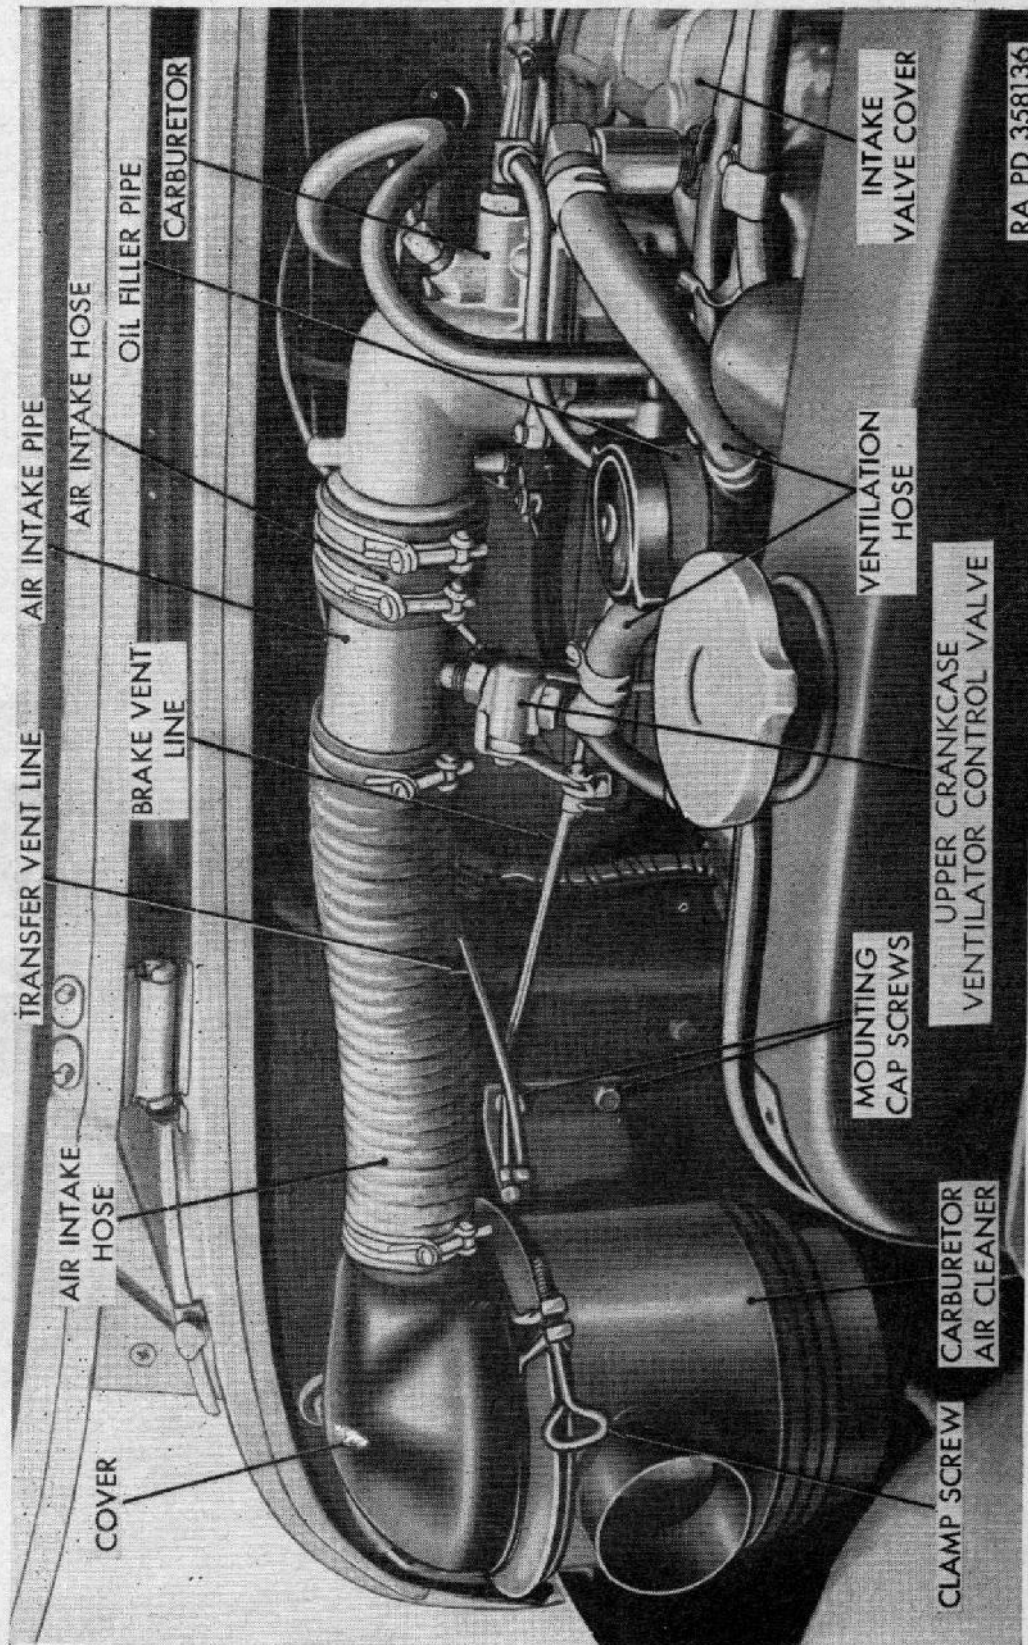

Figure 45. Carburetor and carburetor air cleaner installed.
- (4) *Carburetor air cleaner.* The carburetor air cleaner (fig. 45) is an oil-bath type specially designed and adapted for underwater operation. The air cleaner is mounted on the right
- (3) Loosen hose clamp at carburetor and remove air intake hose (fig. 45) from carburetor.
- (3) Place air intake hose (fig. 45) on carburetor and tighten hose clamp securely.
*a. Servicing.* Loosen hose clamps securing air intake hose (fig. 45) to cover and pull off air intake hose. Loosen clamp screw and lift off cover. Lift out air cleaner element (fig. 54) with baffle attached. Reach down in air cleaner body and lift out oil cup. Pour old oil out and clean oil cup in dry-cleaning solvent or volatile mineral spirits. Place fresh engine oil in oil cup to level indicated on side of oil cup. Place oil cup in air cleaner body making certain it seats correctly. Place air cleaner element with baffle attached in air cleaner body making sure it seats correctly. Position cover on air cleaner securing with clamp ring (fig. 54) and tighten clamp screw (fig. 45). Connect air intake hose to air cleaner and tighten hose clamps.
*b. Removal.* Loosen hose clamps and remove air intake hose (fig. 45) from cover. Disconnect brake vent line and transfer vent line from air cleaner body. Remove four mounting cap screws securing carburetor air cleaner to vehicle and remove carburetor air cleaner.
*c. Installation.* Position carburetor air cleaner on vehicle and secure with four mounting cap screws (fig. 45). Connect transfer vent line and brake vent line to side of air cleaner body and tighten securely. Install air intake hose on cover and tighten hose clamps.